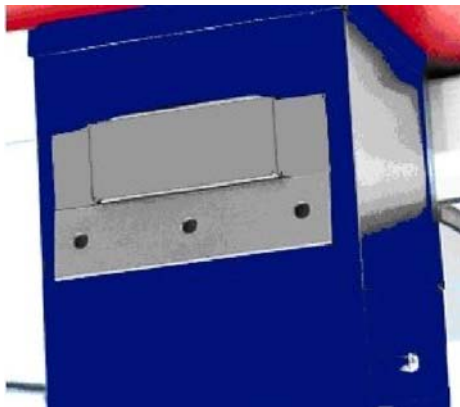

Figure 2 - Mounting Bracket
2. Mount the outdoor power unit to a solid surface using the bracket with the offset tongue. Mount the bracket with the tongue side up. Slide the rear of the unit over the tongue and secure through the extruded hole in the wiring compartment. Using ¼" flathead hardware is recommended. See Fig 2.